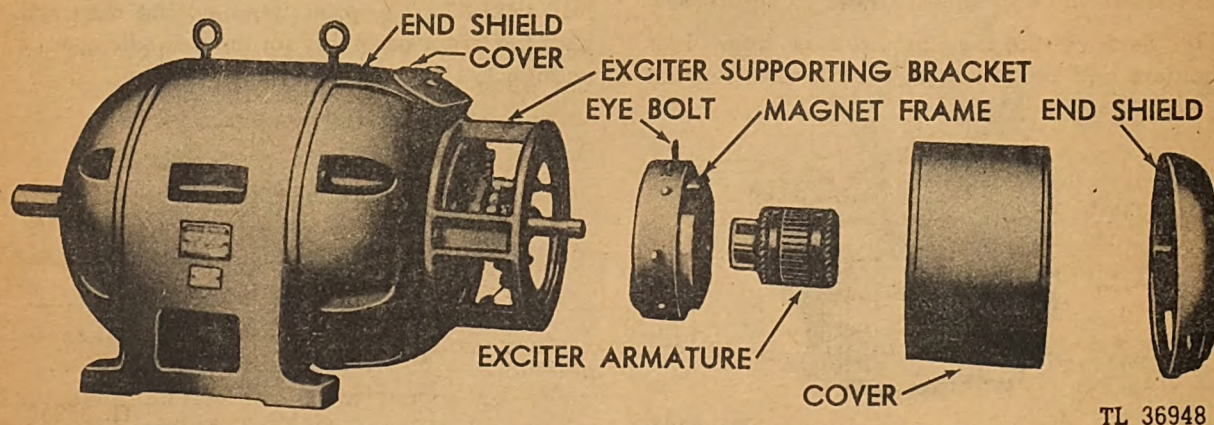

Fig. 296. Exciter End of Alternator Partially Exploded
*a. Exciter.* (1) Remove the exciter wrap around cover. (See Figure 296.)
(2) Take out all the screws from the eye bolts to remove the end shield. Refer to Figure 296.
(3) Remove the exciter brushes from their holders and turn them to a crosswise position